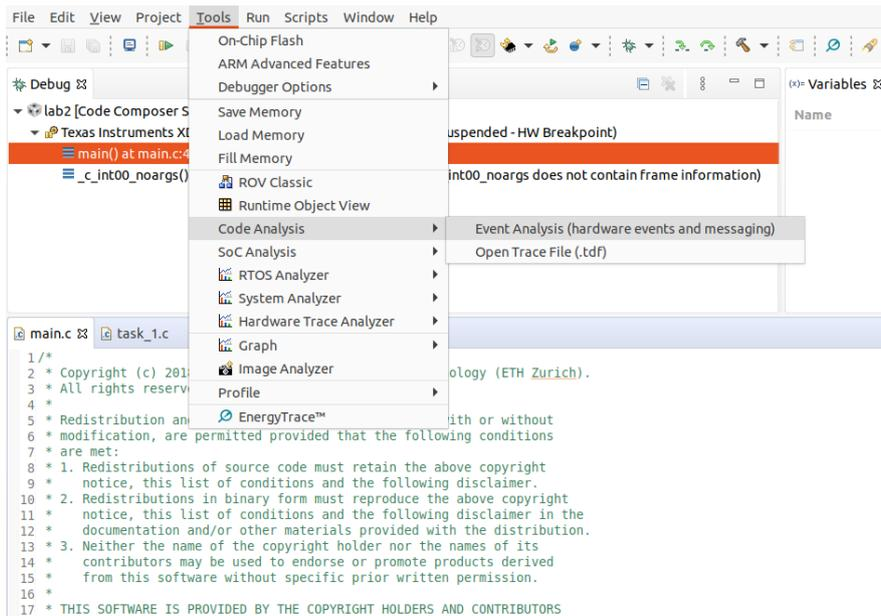
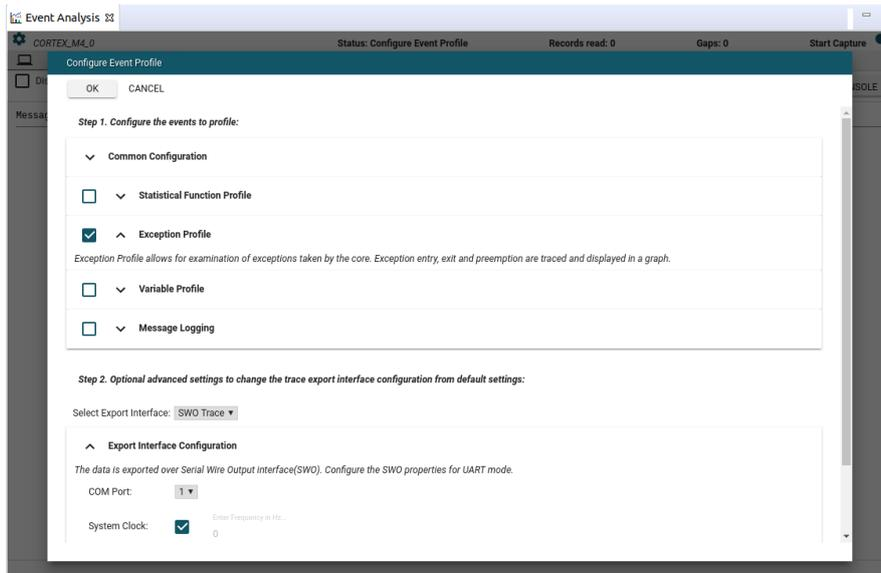

Figure 7: Code Analysis Menu Option.
Figure 8: Event Analysis Configuration.
- Start to collect an interrupt trace by selecting *Tools > Code Analysis > Event Analysis (hardware events and messaging)* from the menubar (see Figure 7). When selecting *Event Analysis (hardware events and messaging)*, a configuration window will pop up². You should select *Exception Profile* and keep the other default configuration (e.g. *SW0 Trace*). Also note that *COM Port* should be valid, and just click *OK* (see Figure 8).